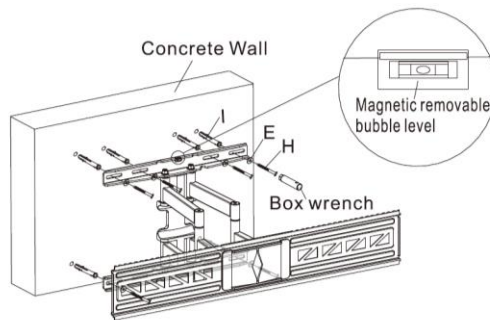

Fig 2c
Drill 6 mounting holes with 10mm masonry bit. Mounting holes should be a minimum of 50mm deep. Insert 6 wall anchors (I) into holes, and tap flush with hammer. Mount cantilever assembly to wall using 6 long bolts (H) and washers (F/G) (Fig.2c).